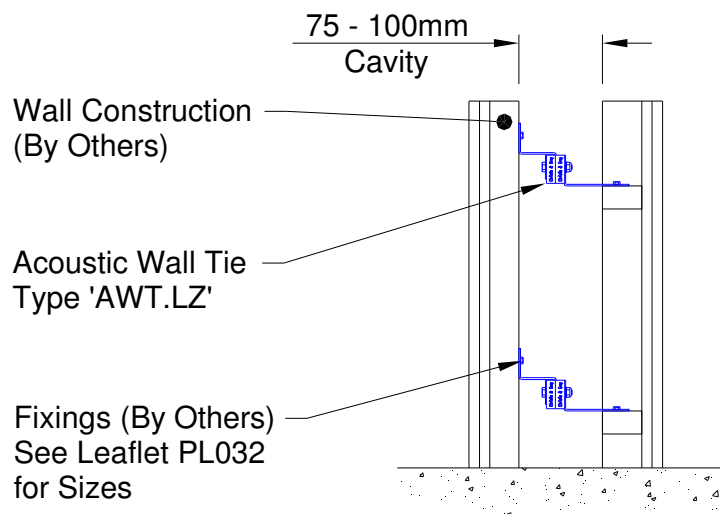

Figure 5
- d). Alternative fixing for internal double partition walls with cavity widths of 75 to 100mm using acoustic wall tie type AWT.LZ (See Figure 5).